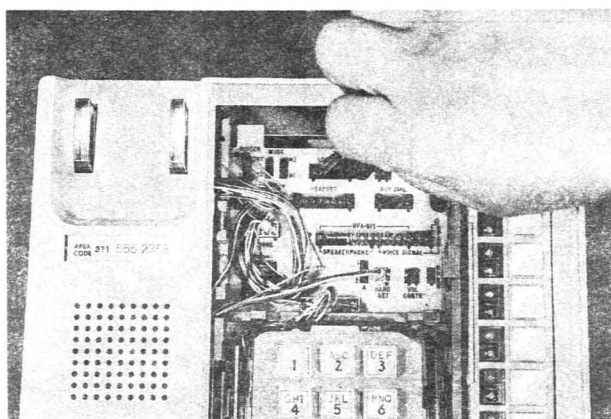

Fig. 9—Interconnect Field
3.04 Electrical interconnections within the sets are made on an interconnect field located above the dial for easy access when the faceplate is removed (Fig. 9). This module consists of a printed wiring board with paths interconnecting pins inserted into the bus. These pins are arranged in groups to correspond with the electrical terminations associated with each component. Each component contains a short wiring harness terminated with a miniature 90° type connector that mates with a specified group of pins on the interconnect module. A plastic guide block on the module protects the pins from being accidentally bent, provides notches to indicate proper connector positions, and prevents the connectors from being inserted improperly. All adjacent features requiring electrical interconnection can be added by simply plugging into the appropriate position in the interconnect module.
4.02 All printed wiring board assemblies and conventional set components are terminated in miniature connectors that mate with set wiring or plug into an interconnect field (Fig. 9). A block diagram indicating the functional relationship between components is found in Fig. 10.